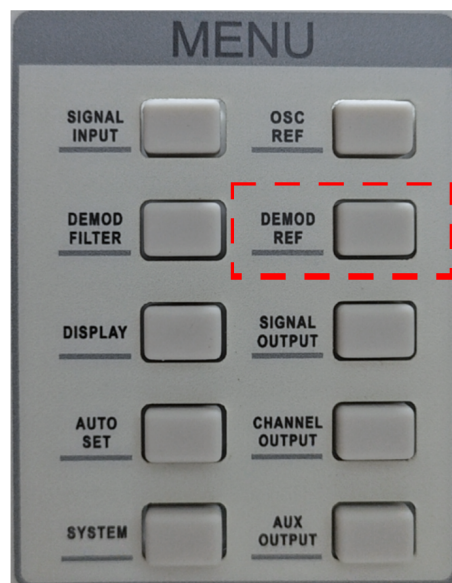

Figure 102. Location of the [DEMOD] Submenu
4. Press the [DEMOD REF] key on the front panel, shown in Figure 102, to enter the sub-menu.